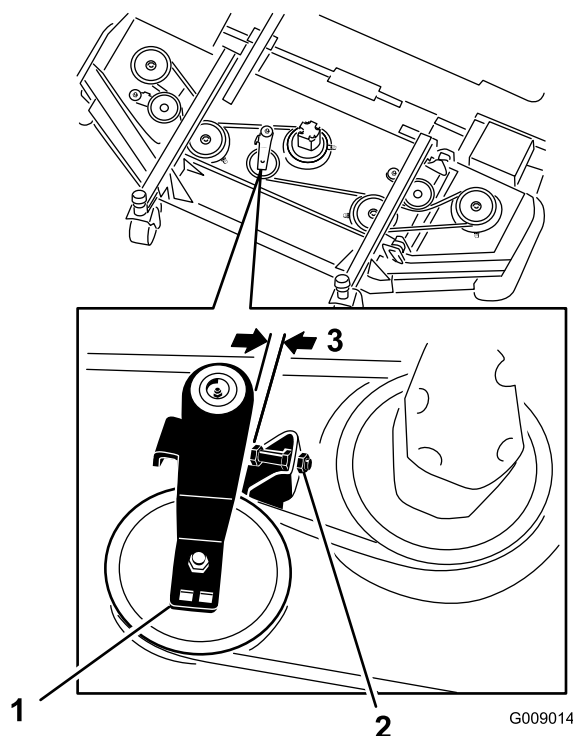

Figure 82
2. On the front deck, loosen the jam nuts on the idler pulley stop screw and thread the stop screw in to the bracket (Figure 82).
3. Using a ratchet wrench or similar tool, move the idler pulley (Figure 82) away from the drive belt to release the belt tension and allow the belt to be slipped off the deck pulleys.